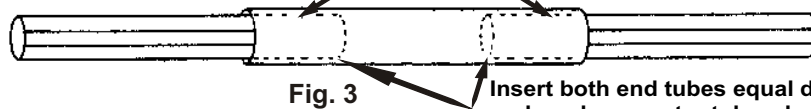

Fig. 3
- **Twist, lock and hold EACH tube join before installing first screw (Fig. 3 & 4).**